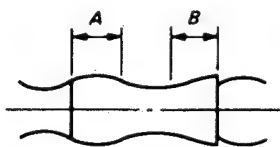

Fig. 1-4-10 Adjustment points
5. If the A section in Fig. 1-4-10 does not meet the specification, adjust the S-guide roller in up or down direction.
6. If the B section in Fig. 1-4-10 does not meet the specification, adjust T-guide roller in up or down direction.